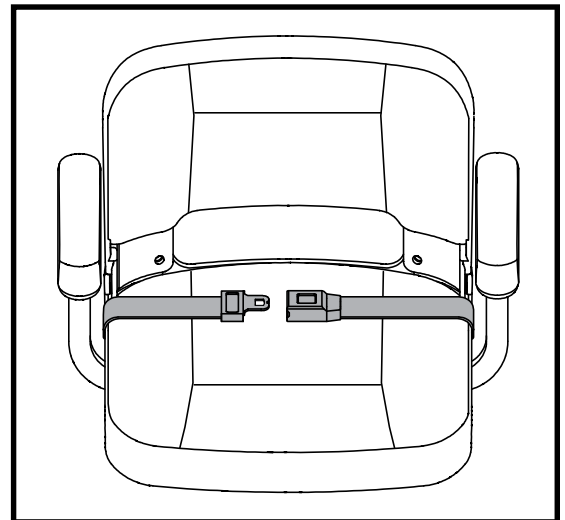

Figure 30. Positioning Belt
Your scooter seat may be equipped with an auto-type positioning belt that can be adjusted for operator comfort. See figure 30. The positioning belt is designed to help support the operator so that he or she does not slide down or forward in the seat. The positioning belt is not designed for use as a restraining device.
1. Insert the metal tab on the right side of the belt into the plastic housing on the opposite strap until you hear a “click.” See figure 30.